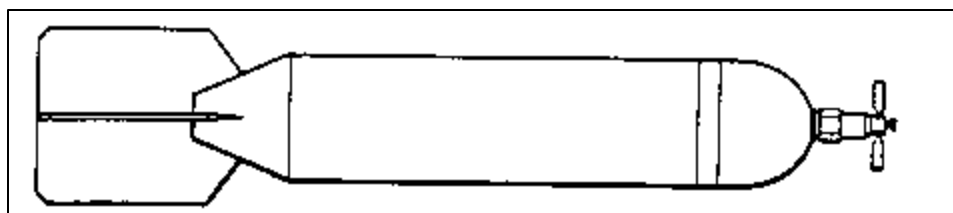

Figure 26. U.S. White Phosphorous (WP) or PWP smoke bomb.
- (9) Smoke bombs are used to conceal combat areas and troops and ship movements. They are also used for target marking and for antipersonnel (APERS) effect. A smoke bomb is shown in Figure 26.